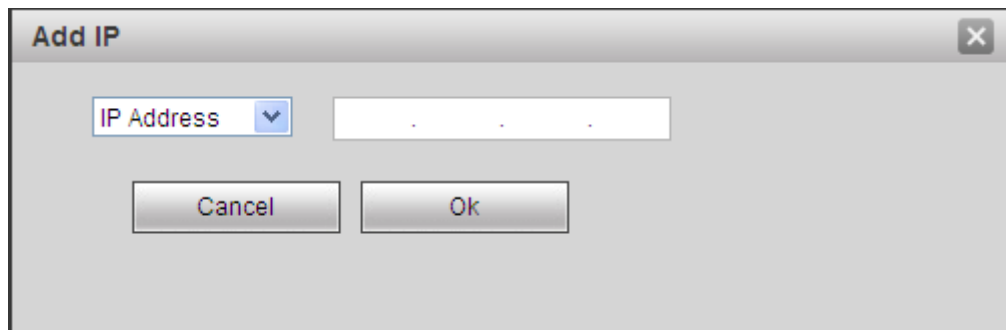

Figure 4-26
Step 2. Click **Add IP**. See Figure 4-26.